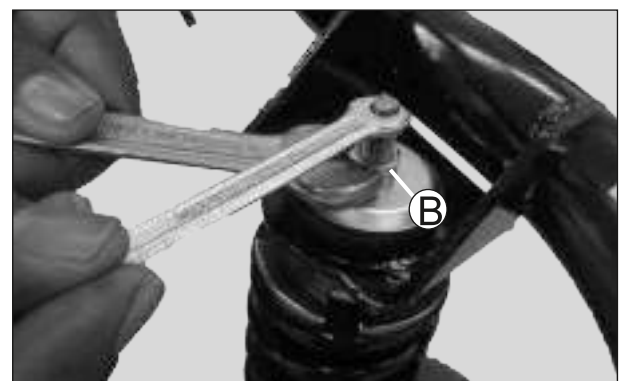

Fig. 5.78
- Hold the shock absorber stud with a spanner so that the bottom nut can be removed. (Fig. 5.78)
- Loosen and remove the hexagonal nut (bottom) from shock absorber assembly top mounting(B). (Fig. 5.78)